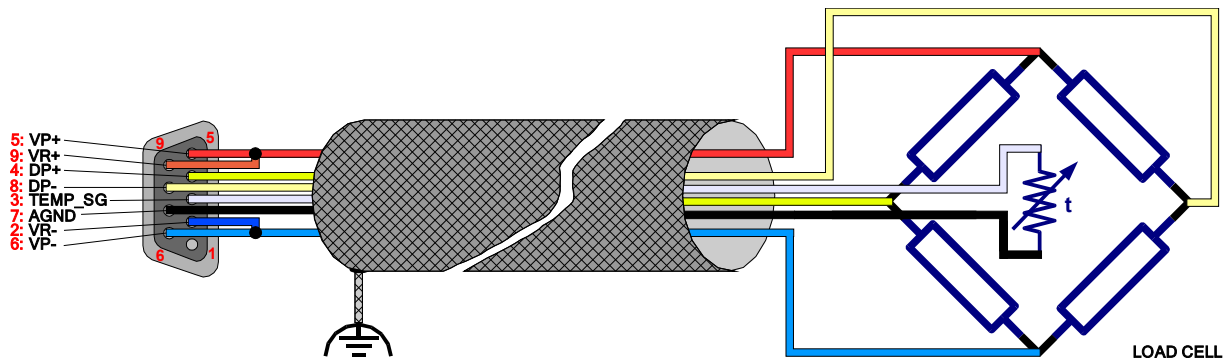

Fig. A.5 Four wire load cell: shield on load cell side not grounded
- to the casing of the DSUB connector (earth) of the SGACQA if the load cell transducer is supplied with floating shield (fig. A.5 and A.7)